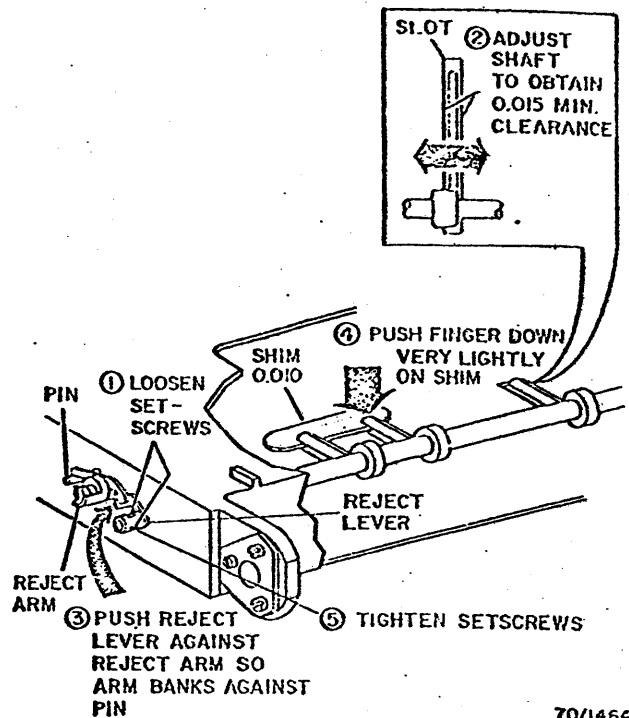

Fig. 3-108. Reject Lever
1. Loosen setscrews at end of shaft (Fig. 3-108).